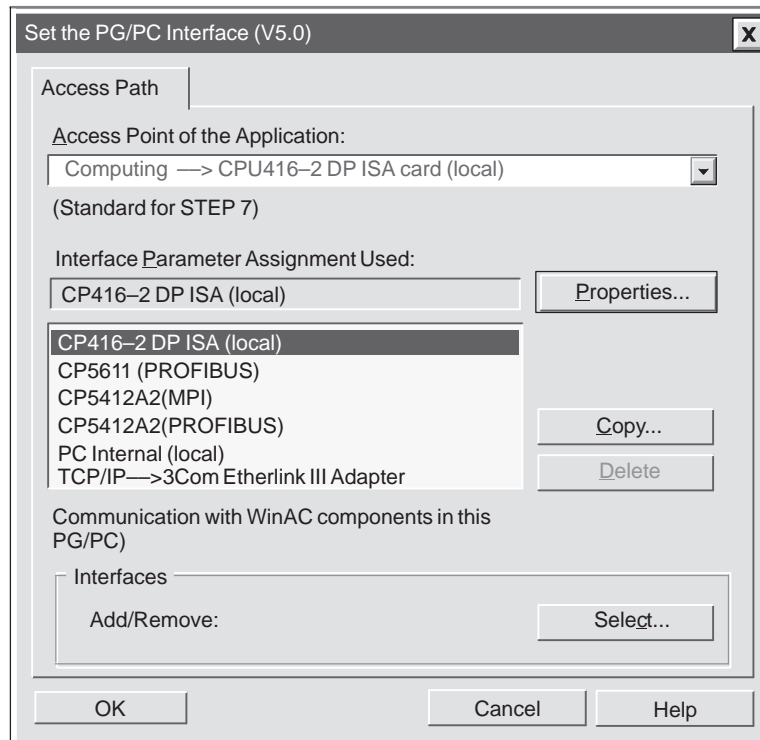

Figure 3-1 Setting the PG/PC Interface for Slot PLC CPU 416–2 DP ISA (local)
4. Select the interface parameter from the parameter set that corresponds to your network communications path, for example “CPU416–2 DP ISA (local)”. The PLC or card you selected appears in the Access Point of the Application field (Figure 3-1).